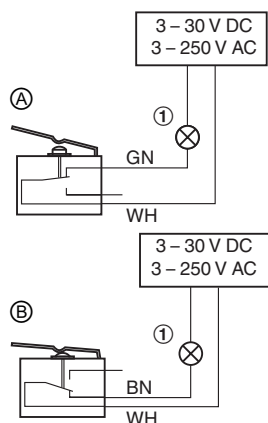

Fig. 38: Wiring example for limit switch
- ① Indicator light or relay, to be provided by others
- The limit switches must be connected according to the wiring example Fig. 38